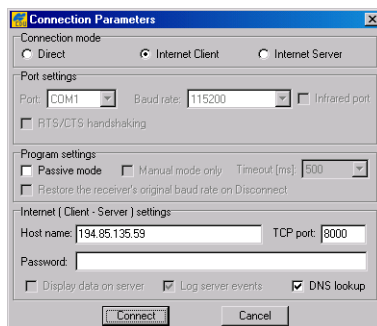

Figure 1-10. Internet Client Connection Parameters
2. Click **Connect** (Figure 1-10 on page 1-23).